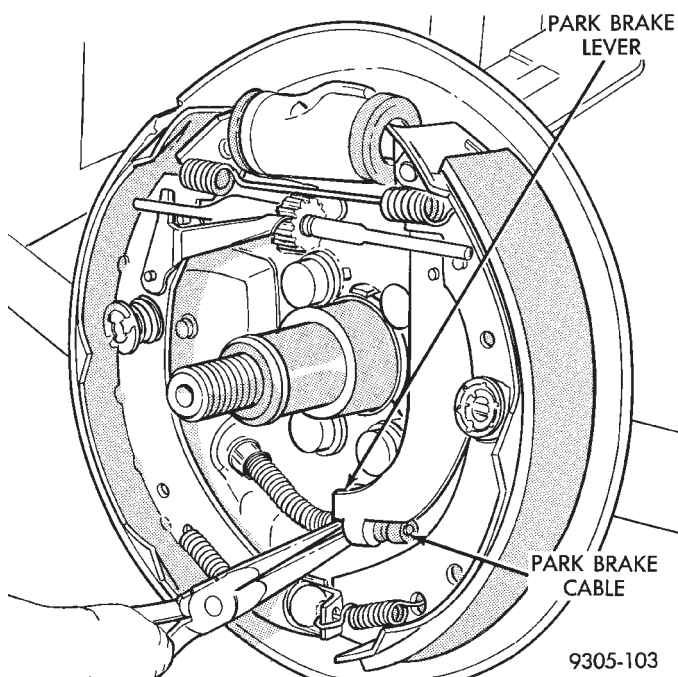

Fig. 8 Disconnect Parking Brake Cable
(5) Disconnect parking brake cable from parking brake lever (Fig. 8). **Note: Only disconnect the park brake cable on one side of the vehicle at a time. Failure to do so will result in high efforts required to connect park brake cables to equalizer or park brake lever.**